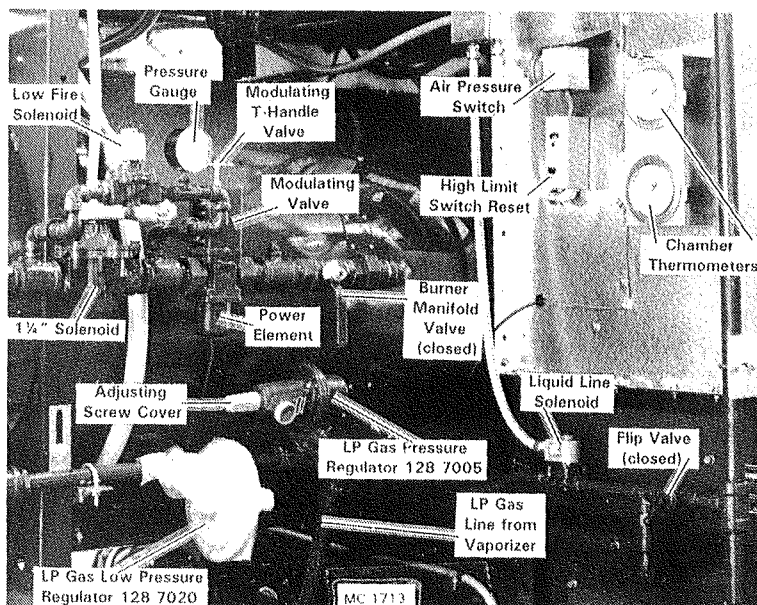

Figure 20
11. LP Gas Only - With the burner operating, check the reading on the gas pressure gauge in the manifold. See Figure 20. It should be approximately 1/2 to 1 pound. If not, remove plastic cover and loosen the locknut on the pressure regulator adjusting screw. See Figure 20. Turn the adjusting screw IN to increase and OUT to decrease pressure.